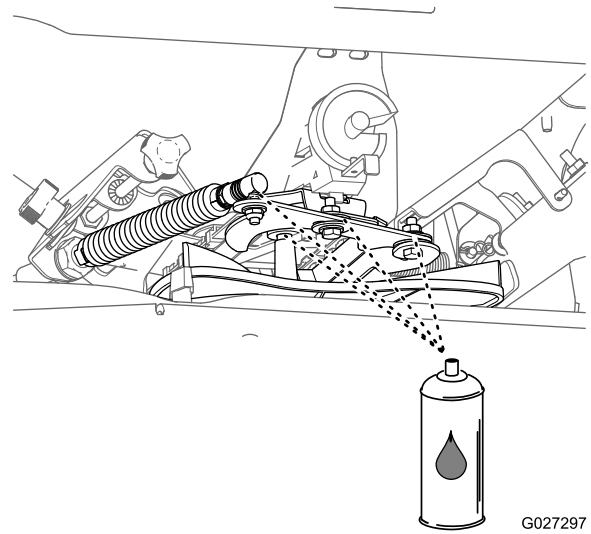

Figure 38
6. Apply water-displacing lubricant to the components as shown in Figure 38.